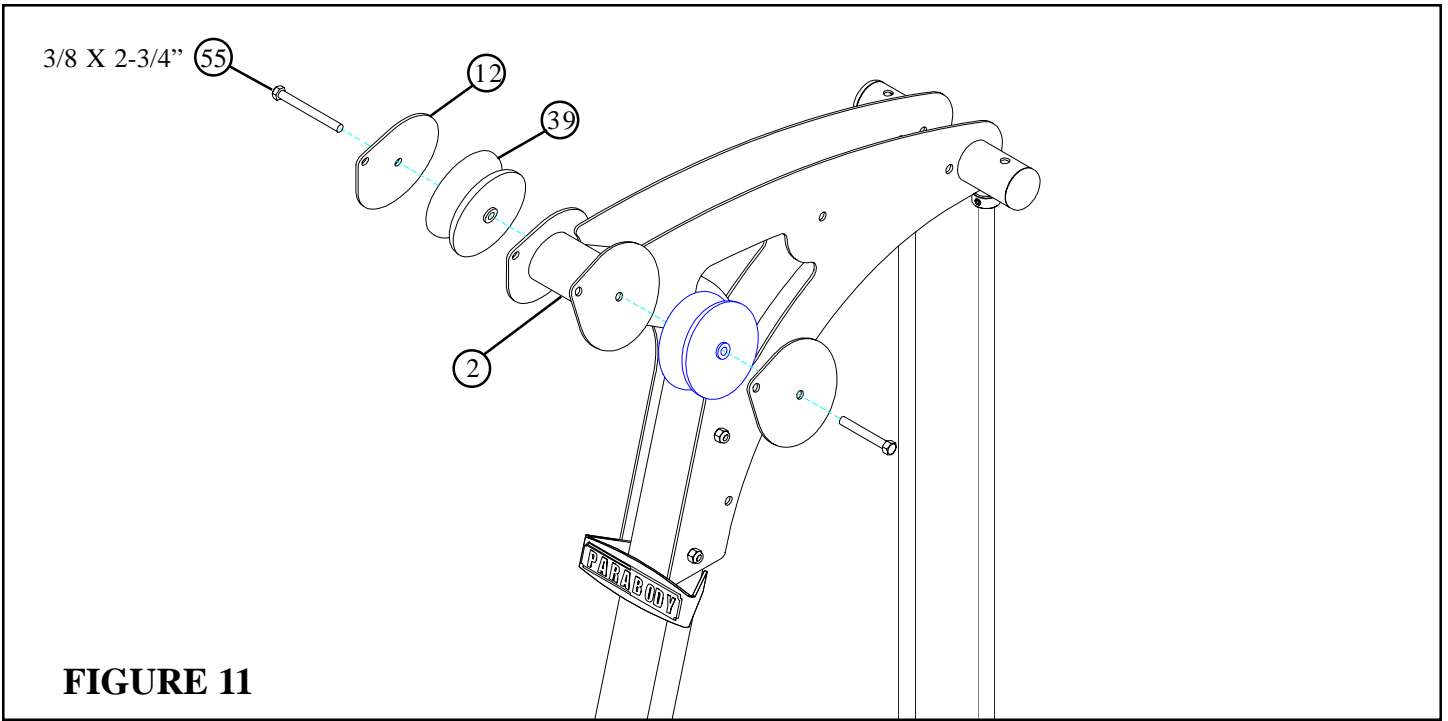

FIGURE 11
- Assemble two V-PULLEY PLATES (12) and two 4-1/2" V-GROOVE PULLEYS (39) to the UPRIGHT (2) using two 3/8 X 2-3/4" BOLTS (55) . See FIGURE 11.